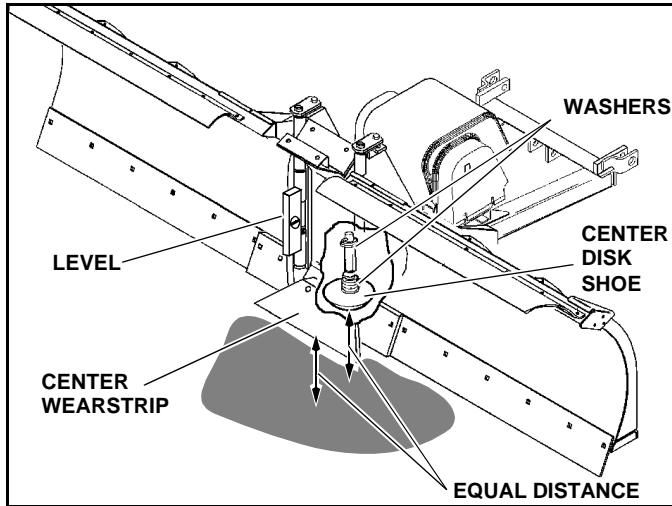

Figure 2-5
5. Determine whether the Center Disk Shoe or the Center Wearstrip is off the ground and measure the amount that it is off the ground. (See Figure 2-5)